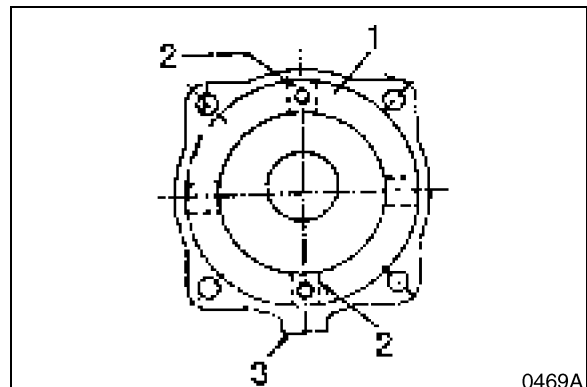

Figure 39
14. Position brake piston (1, Figure 39) in casing. The diagram shows position of four piston grooves (2) in relation to valve-connected side (3), and two 8 mm bolts which should be tightened in an even, progressive rotation.